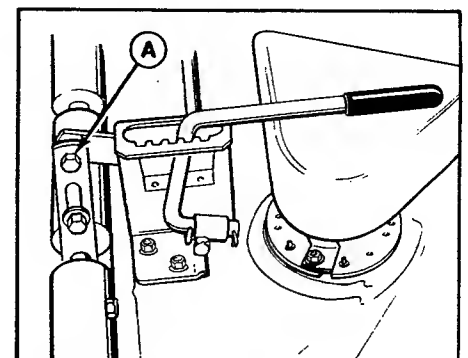

Figure 33. Shoulder Bolt
- Loosen the shoulder bolt (A, figure 33) and raise or lower mower as necessary to level it. Retighten the shoulder bolt and torque to 40 ft. lbs.